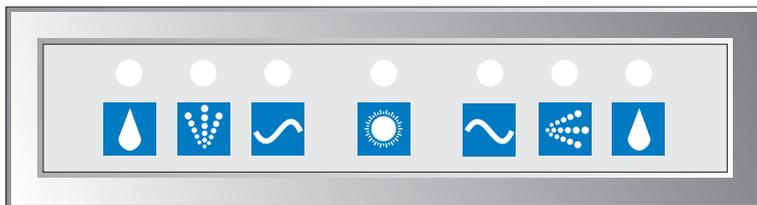

Figure 8
4.1.2 Hydro/Aero Combination Controls (See fig. 8)